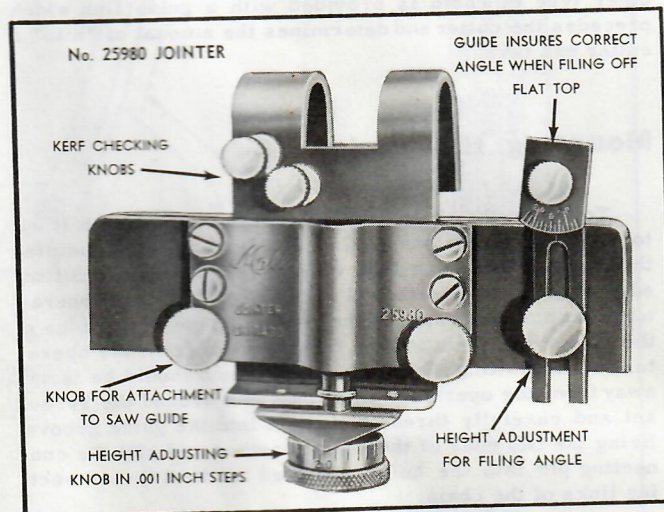

FIG. 22
A good job of sharpening can also be done by hand filing. A Mill Bastard file (D) No. 26255 (Fig. 22) 8 inches long and with round edges should be used. Do not try to take off too much metal at one time. Long even strokes in one direction, taking care not to rock the file while it is cutting, should give you a well controlled sharpening job. Care must be given in maintaining equal tooth height and also the clearance between the height of the cutter and raker. Normally this should be 1/32 inch, however, the difference in the hardness of woods may require different clearance dimensions. In general, the harder the wood, the greater this clearance.